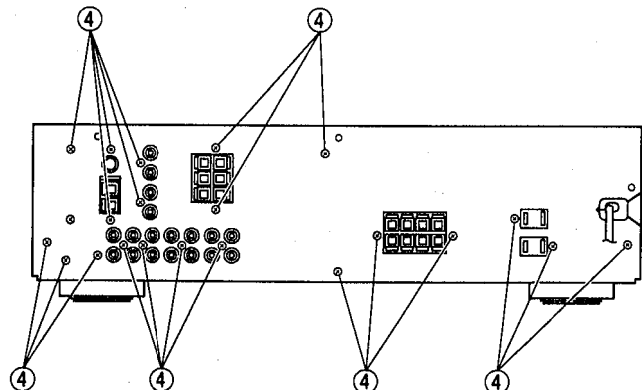

Fig. 2
Remove 21 screws (④) in Fig. 2.